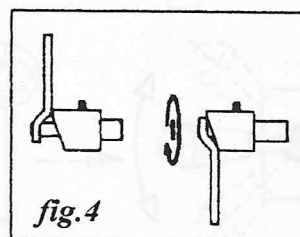

fig. 4
D) Put the beam stop device back into the locked position (Fig. 4) and fully remove the rod using the control lever.